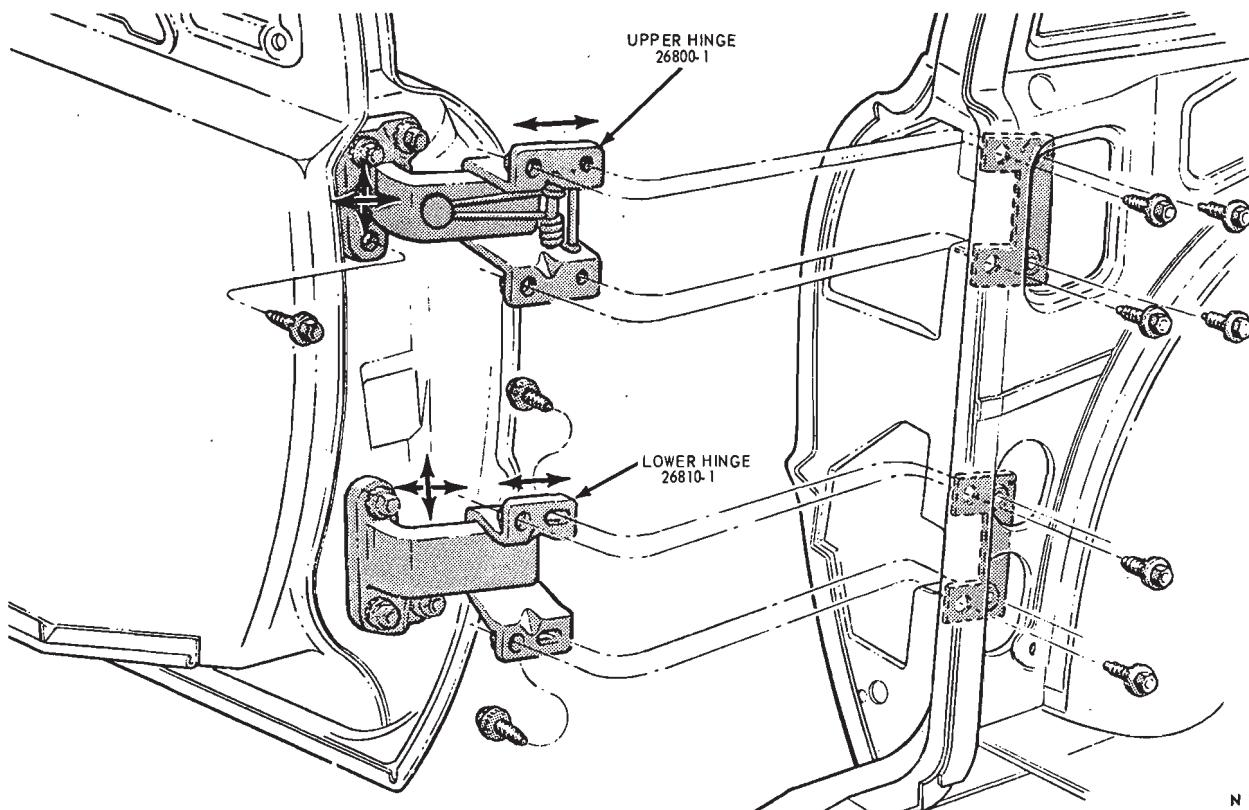

FIG. 2—Rear Door Hinge Installation—Thunderbird
3. Move the door the distance estimated to be necessary. Tighten the hinge bolts and check the door fit (Figs. 2 through 12, Part 44-01).